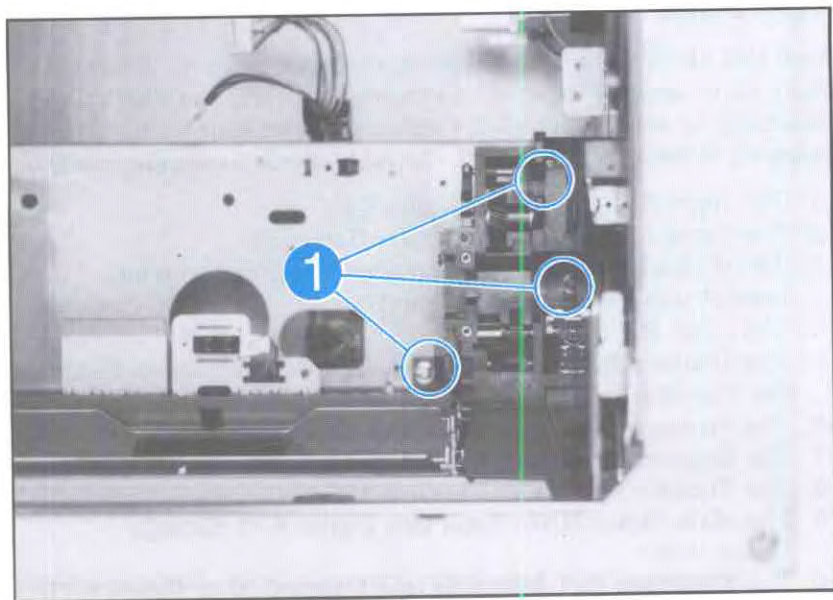

Figure 6-38. Right Block
15. Remove the (3) screws securing the Right Block (see Figure 6-38, callout 1).